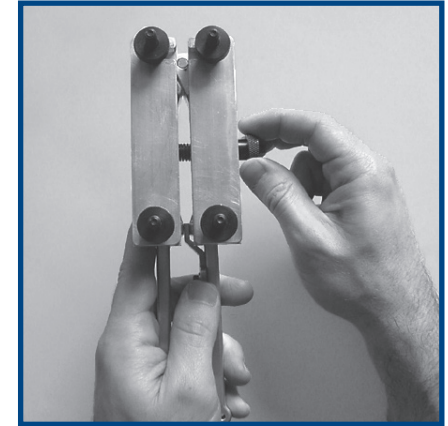

Figure 1
4. Refer to Figure 1. Using the Hand Clamp, slide the spacer toward the mounting clamps, squeeze the handles closed, and finger tighten the thumb nut located to the right of the right side mounting clamp.